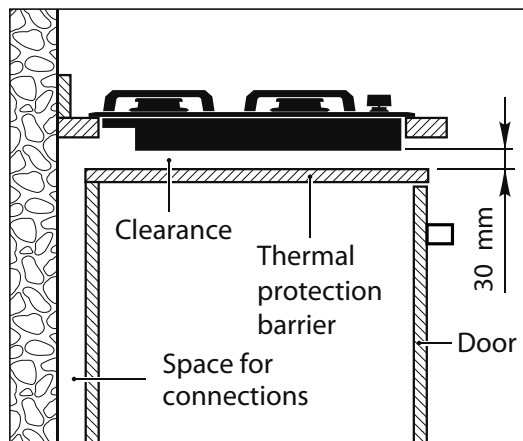

Fig. 1 Location of thermal protection barrier
- You must install a thermal protection barrier between the base of the appliance and the built-in unit or an oven. See Fig. 1 below.